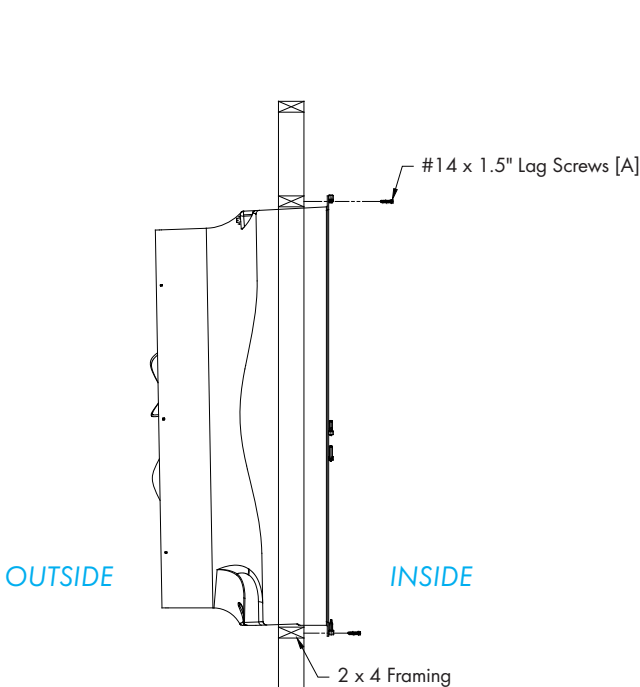

Figure 2A
Insert fan into the framed opening from the inside. While lifting fan up tight to framing, fasten top of fan with (3) Lag Screw [A]. See Figure 2A and 2B. Next, fasten bottom of fan, then both sides with remaining (9) Lag Screw [A]. Install flashing around opening tight to fan and caulk around fan to seal.